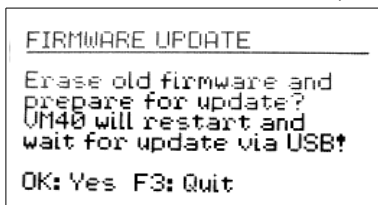

Figure 67: Start update
6. Within the VM40 “Device settings” select the option “Update firmware” and confirm the subsequent warning by pressing OK (Figure 67). By carrying out